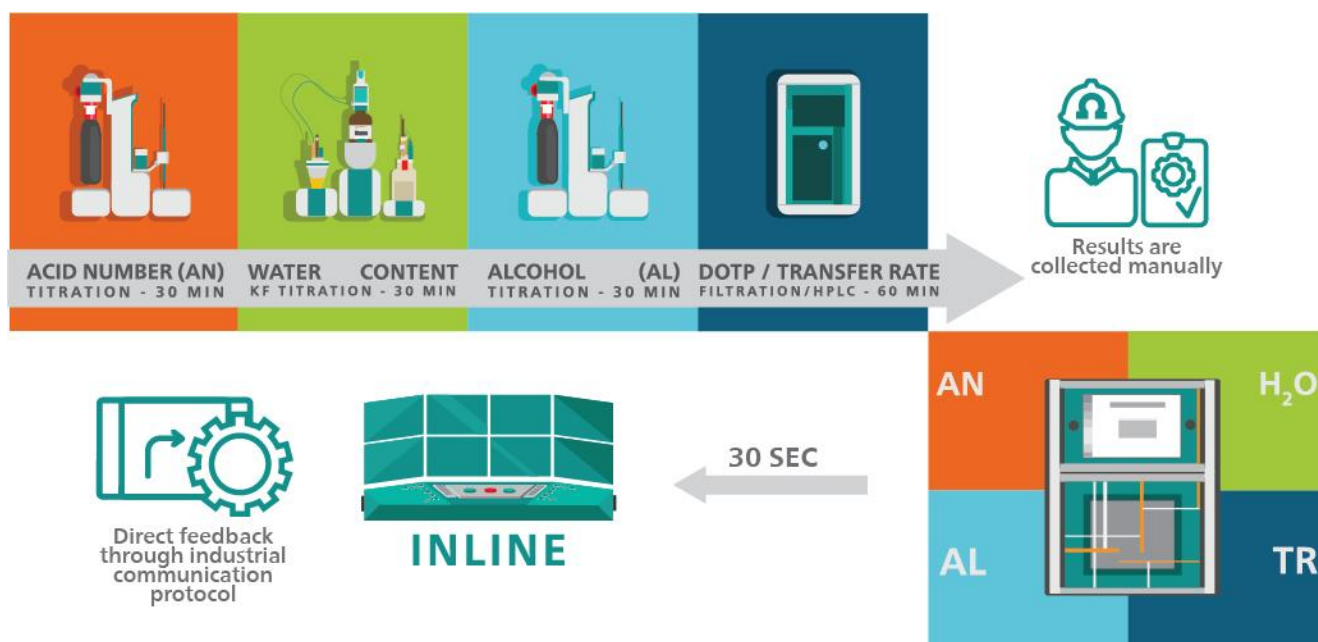

Figure 1. Steps to measure important parameters in DOTP production by implementing offline (top) or inline (bottom) analysis procedures.
However, manual laboratory methods can give long response times which are not ideal in the case of process changes (e.g., reaction mixture, moisture levels). Moreover, sample preparation (e.g., dilution, filtration, pipetting) can introduce errors that alter the precision of the analysis. Manual laboratory work can be quite cumbersome in this case since four different operating procedures need to be implemented to analyze these parameters: the acid number (AN) for TPA, alcohol (AL) for 2-EH, ester for DOTP, and water (Figure 1).